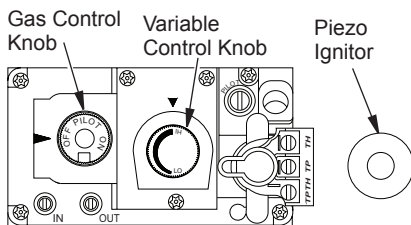

Figure 61 - Control Valve
4. Push in gas control knob slightly and turn clockwise to OFF (see Figure 61).
5. Wait five (5) minutes to clear out any gas. Then smell for gas, including near the floor. If you smell gas, STOP! Follow "B" in the safety information above. If you don't smell gas go to the next step.